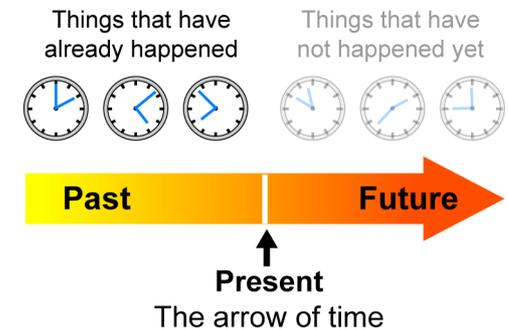

Figure 4.19: Time can be thought of as an arrow pointing from the past into the future.
- A connection** The efficiency is less than 100 percent for virtually all processes that convert energy to any other form except heat. Scientists believe this is connected to why time flows forward and not backward. Think of time as an arrow pointing from the past into the future. All processes move in the direction of the arrow, never backward (Figure 4.19).